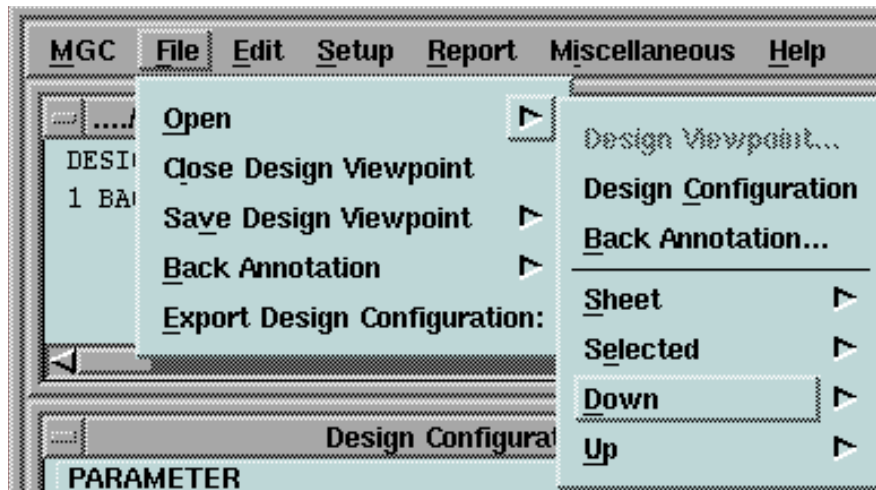

Figure 3-21. File > Open Menu
3. Select the **DATA_IO** component on **sheet1**, then choose the **File > Open > Down** menu item shown in Figure 3-21.